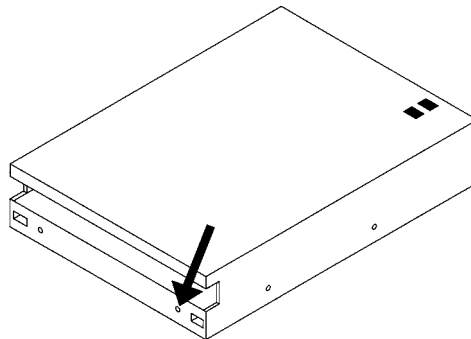

Figure 53: Disk Eject Hole
- a. Insert the eject tool (or paper clip) into the disk eject access hole (see Figure 53).